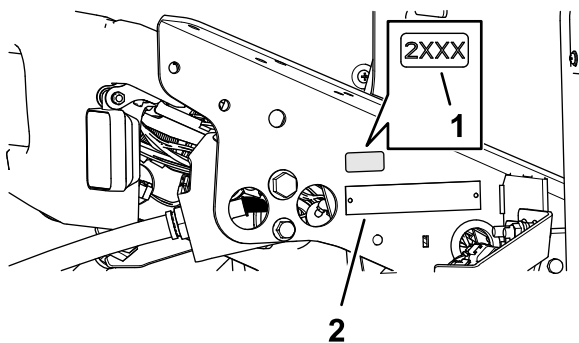

Figure 35
1. Use rubbing alcohol and a clean rag to clean the floor bracket area next to the serial plate, and allow the bracket to dry (Figure 35).